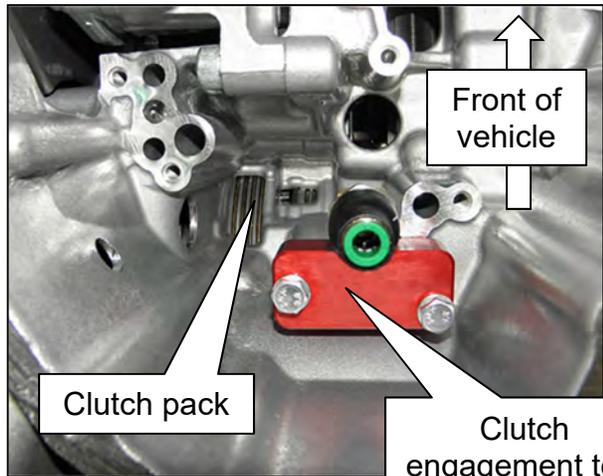
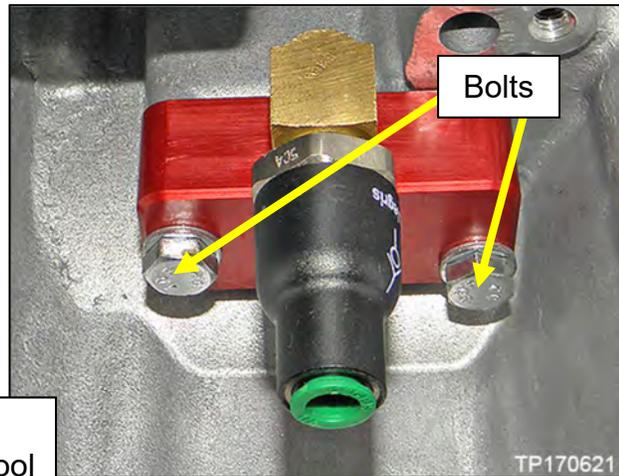

Figure 12
Figure 13
- a. Install the Clutch Engagement Tool (J-52273) to the CVT case with two bolts finger tight where shown in Figure 12 and Figure 13.